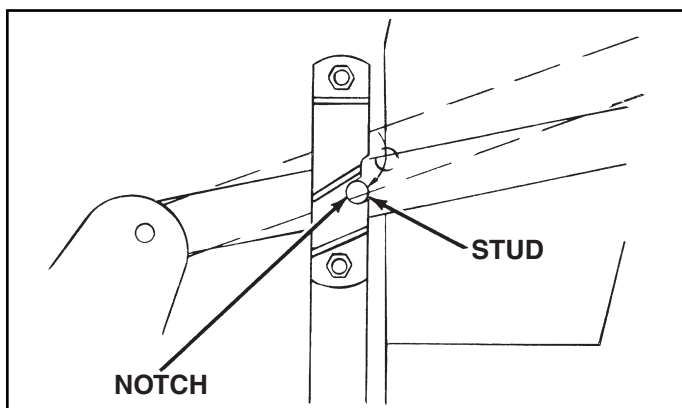

FIGURE 19
- Pull lift handle back so that stud in handle is pulled past handle lock bracket. Push down and forward on handle so that stud falls into notch on handle lock bracket to lock in position. See figure 19.
- Pull back and up on handle to release stud from notch in handle lock bracket. Lower by holding up on handle and pushing forward, allowing stud to pass through lock bracket. See figure 19.